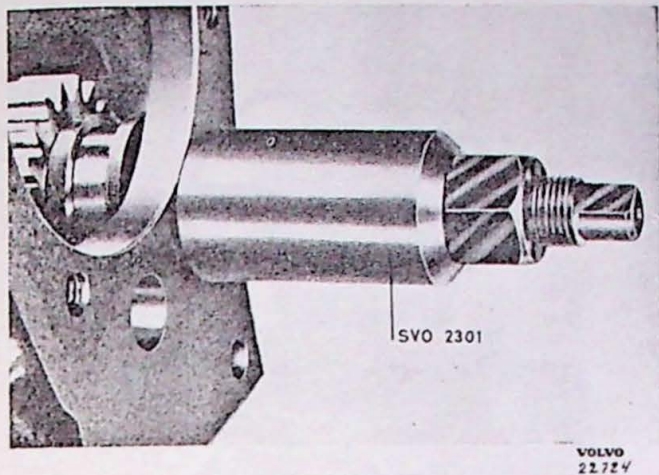

Fig. 3-18. Removing reverse gear
7. Drive out the input shaft. If necessary remove the locking ring and press off the ball bearing (64) from the input shaft.
8. Take out the idler gear wheel. Pull out the shaft (5) for the reverse gear wheel (6) with puller SVO 2301, Fig. 3-18. Take out the reverse gear wheel and lever (8).